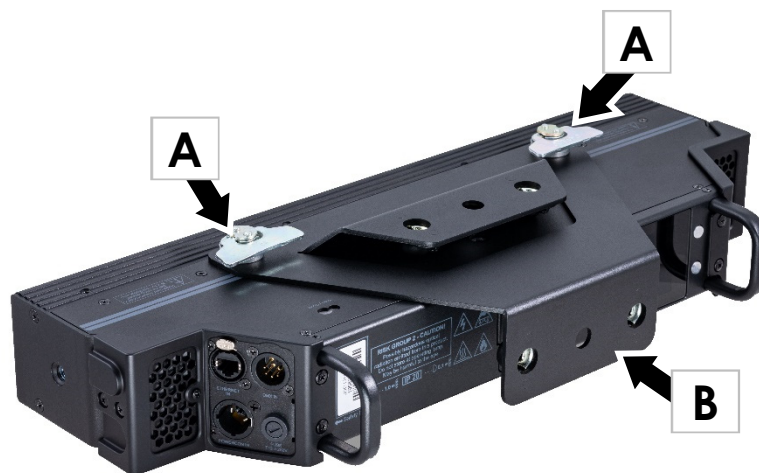

Figure 4. JDC Line Rigging Bracket
1. See Figure 4. Push the quarter-turn fasteners **A** on the Rigging Bracket **B** into the quarter-turn mounting holes on the top of the fixture.